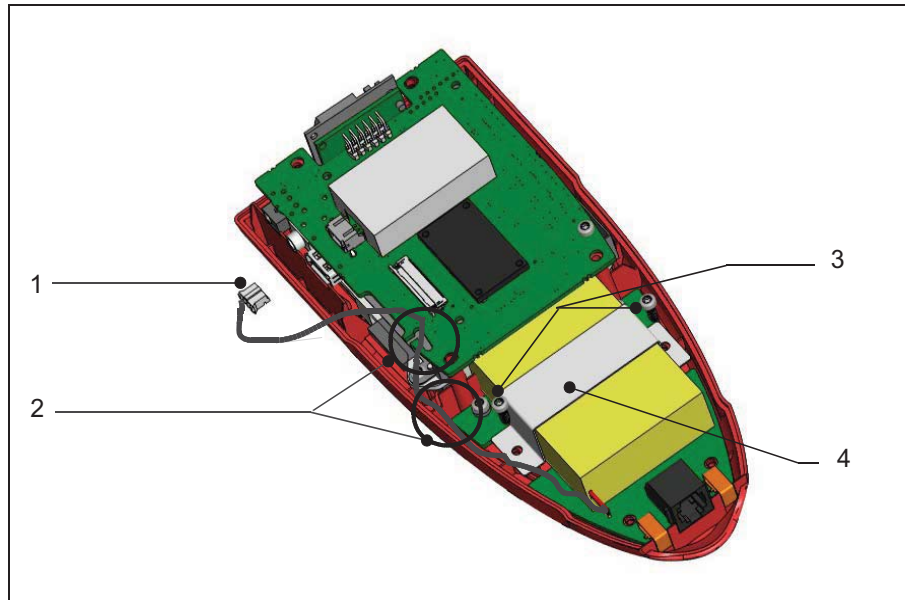

Fig. 37 Remote control RC 500 WL opened
- Disconnect the battery connector from the printed circuit board. (See Fig. 37/1.)
- Remove the cable tie from the battery connecting cable. Pull the cable out of the cable guides on the printed circuit board and top cover. (See Fig. 37/2.)
- Unscrew the fixing screws of the mounting bracket that holds the rechargeable battery. Remove the mounting bracket and lift up the battery from the circuit board. (See Fig. 37/3.)
- Separate the strips along perforations. Adhere the individual strips on the shaded areas (see Fig. 37) on the circuit board and the mounting bracket.